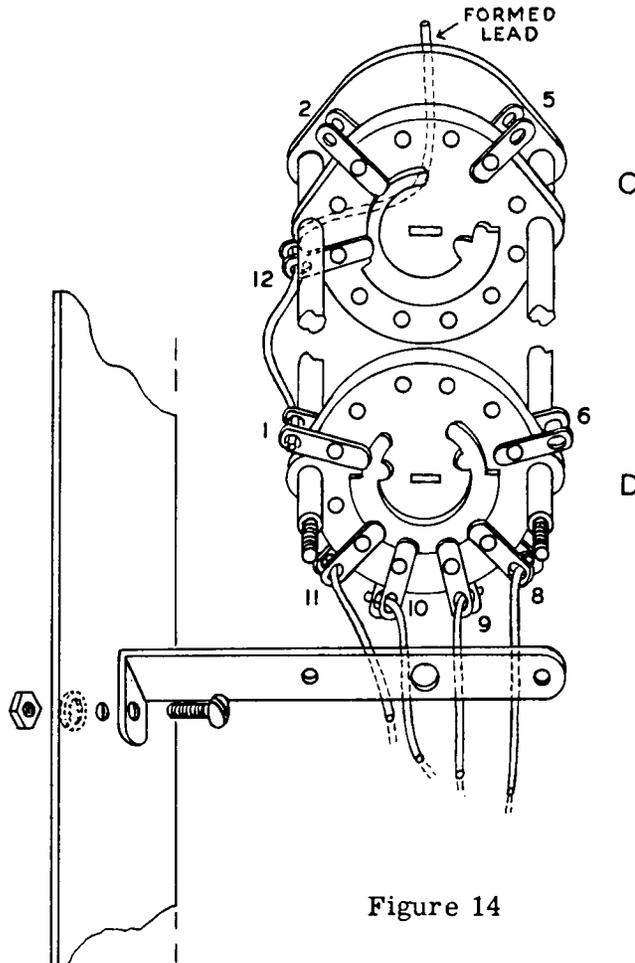
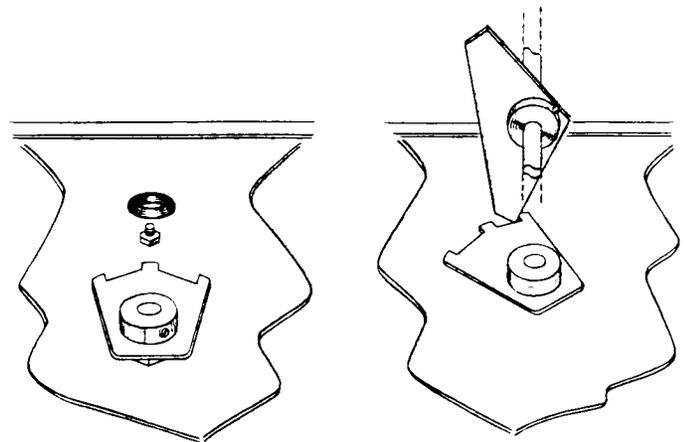

Figure 14
Figure 16
- ( ) The bandswitch consists of two main sections. The front section has one wafer and the back section has two wafers. Select the back section and refer to Figure 14 and Pictorial 8 to identify the terminals.
- ( ) Insert a large bare wire through both contacts of terminal 12C and bring the end over to 1D. Arrange the wire to clear the switch post and shape the wire with pliers so as not to put undue strain on the switch terminals. Solder both pair of terminals and leave 1 3/4" of wire extending from terminal 12C. Form the wire as shown in Figure 14.
- ( ) Use a screwdriver to position the switch rotors as shown in Figure 14. Note the position and shape of the rotor blades. Rotate both switch rotors to the exact position shown so that the back section of the switch will be properly oriented with respect to the front section to be installed later.
- ( ) Move the entire switch into position as shown in Figure 14, taking care to guide the single #14 wire protruding from the front of the switch into the solder lug on the feed-through insulator near the driver shield plate. Use 6-32 hardware to fasten the switch mounting foot to the hole near the center on the side of the 6146 sub-chassis. Do not tighten the mounting screw on the foot at this time.
- ( ) Bend the bottom tank coil tap protruding through the chassis approximately 1/2" to the right, keeping it centered in the chassis hole and connect the heavy wire from terminal 9D to it (NS).
- ( ) Leave the center coil tap straight out from the chassis and connect the wire from terminal 10D to it (NS).
- ( ) Bend the top coil tap approximately 1/2" to the left, keeping it centered in the chassis hole and connect the wire from switch terminal 11D to it (NS). These connections will not be soldered until after the switch mounting foot has been tightened.
- ( ) The long wire from terminal 8D should be run clear of the other taps and connected to the rear feed-through insulator solder lug (NS).
- ( ) Select the VFO switch driven plate (see Figure 16 on Page 41) and insert a 1/4" x 8-32 set screw in the hub. With the hub toward you and the VFO switch in the center position, slip the hub onto the switch shaft and aim the center plate projection directly toward the 3/8" grommet near front center on the chassis. The driven plate should be spaced 1/4" away from the chassis surface. Tighten the set screw by inserting the screwdriver through the 3/8" hole in the right center chassis brace.
- ( ) Set the driver plate on the bandswitch shaft as shown in Figure 16. Some experimentation may be required to obtain optimum position for the driver plate. Note that with both switches fully counterclockwise, both VFO and transmitter stages are in the 160 meter position. As the bandswitch is moved to the 80 meter position, it should just clear the center projection of the VFO switch and engage the right hand projection on the VFO plate without moving the VFO switch. As the bandswitch is moved to 40 meters, the VFO switch should move one position. Switch through 40 meters, 20 meters, 15 meters and 10 meters with the bandswitch. The plate should clear the right hand projection and engage the middle projection at the 10 meter position without moving the VFO switch. Switching to 11 meters with the bandswitch should move the VFO switch one more position. When switching from 11 meters back to 160 meters, the device should operate smoothly in the reverse order.